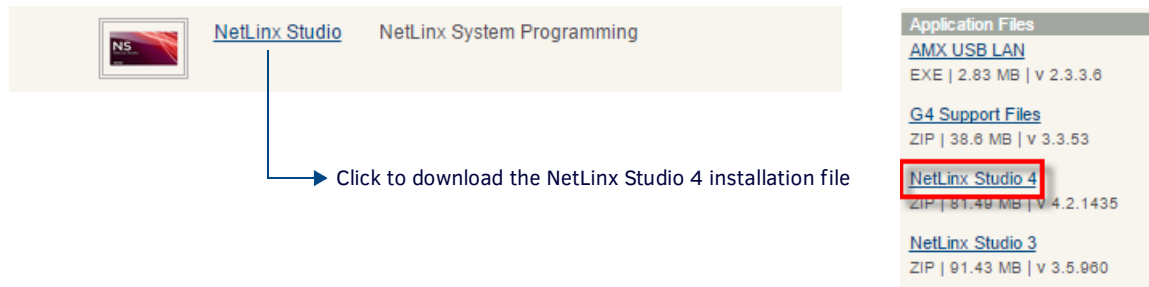

FIG. 156 NetLinX Studio v4 download links on www.amx.com
2. Click the *NetLinX Studio 4* link download the installation file (FIG. 156):